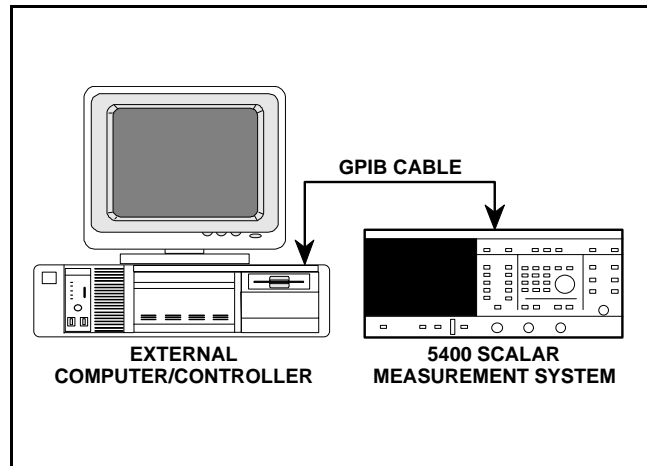

Figure 5-13. Equipment Setup for GPIB Operation Test
1. Connect the test equipment as shown in Figure 5-13 and turn the equipment on.